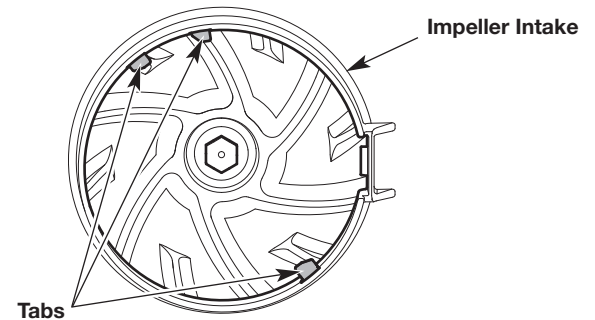

Fig. 5
3. While holding the impeller door open, align the slots on the upper vacuum tube with the tabs in the impeller intake (Fig. 5).